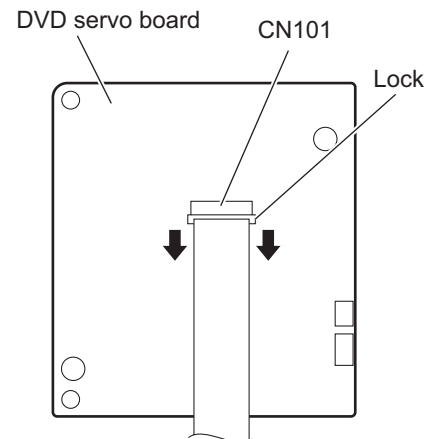

Fig.8
- (5) From the reverse side of the DVD servo board, release the lock of the connector CN101 in the direction of the arrow and disconnect the card wire. (See Fig.8.)